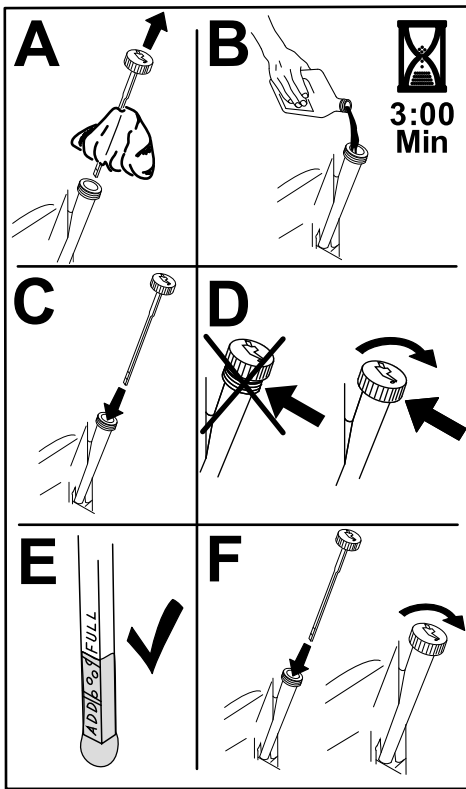

Figure 35
6. Slowly pour approximately 80% of the specified oil into the filler tube and slowly add the additional oil to bring it to the Full mark (Figure 35).